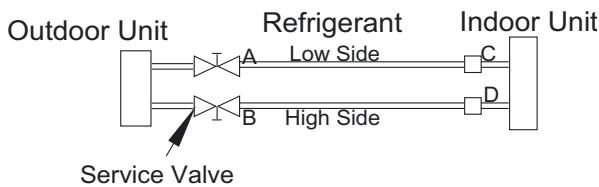

Fig. 8 —Service Valve
1. Completely tighten the flare nuts (A, B, C, D, E). Fully open all circuits service valves. Connect the manifold gage charge hose to the charge port of the low side Master service valve to evacuate all circuits at the same time (see Fig. 8).